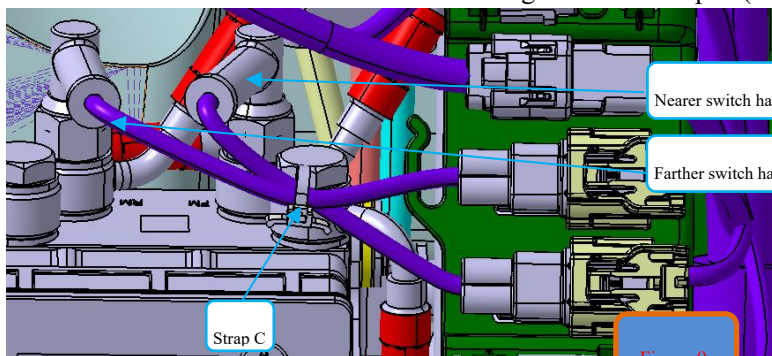

Figure 9
7. Secure the brake switch connectors and the main cable to the electrical mounting plate accordingly, as shown in Figure 9. Note: Place the farther switch connector at the top end of the mounting plate and the nearer one at the bottom end, as shown in Figure 10.